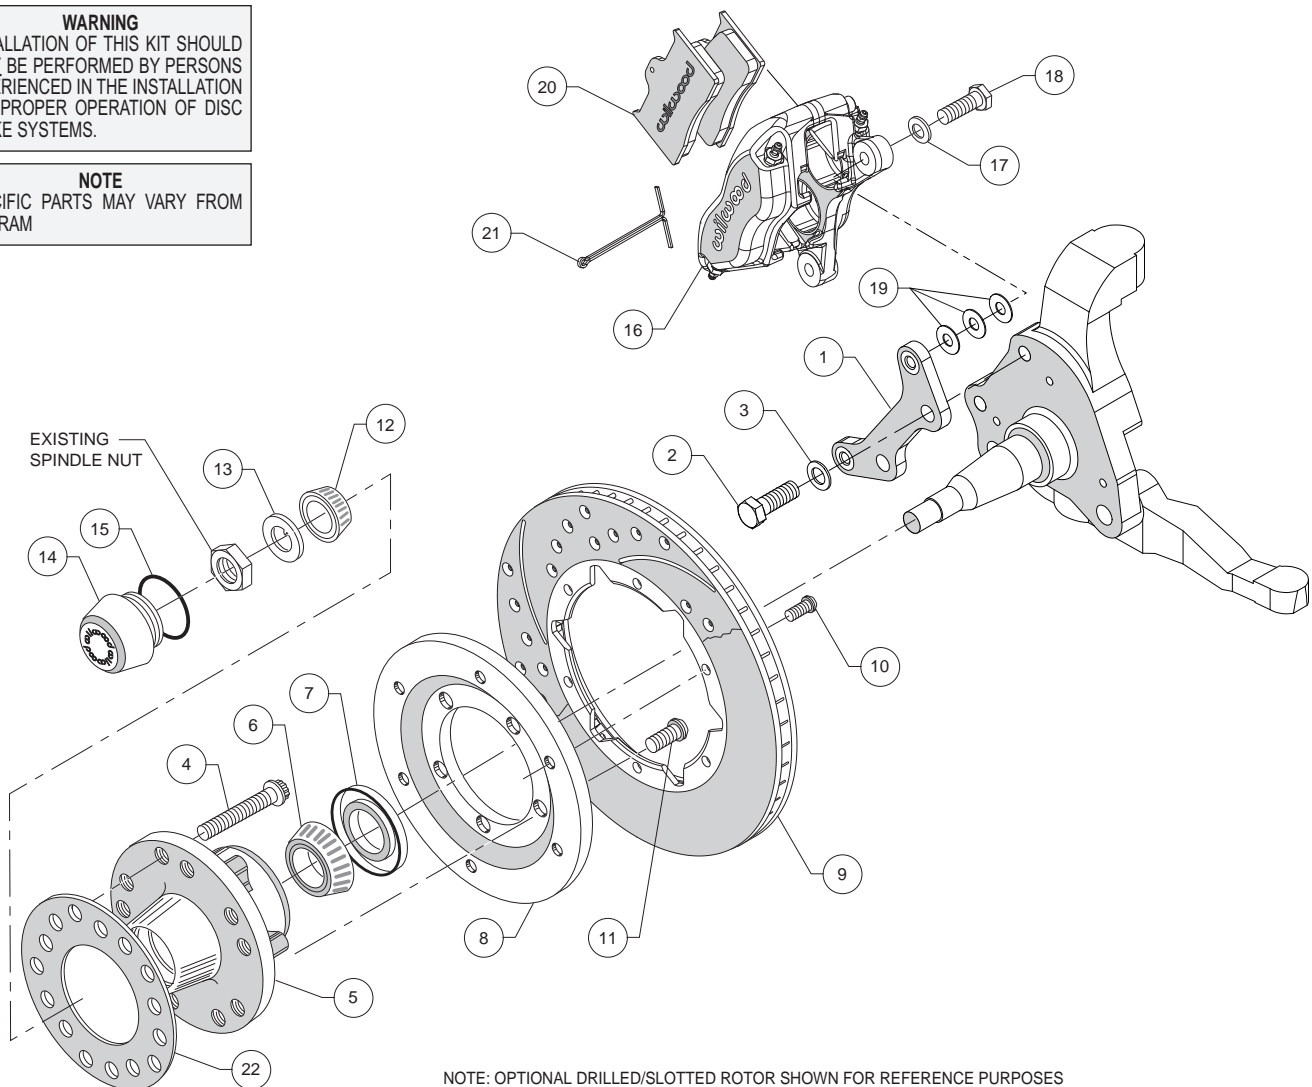

Figure 1. Typical Installation Configuration
Assembly Instructions (numbers in parenthesis refer to the parts list, on the preceding page and Figure 1): **CAUTION:** All mounting bolts must fully engage clinch nuts. Be sure to check that all bolts are either flush or protruding through flanged side of clinch nut after shimming, Figure 3.
- Align caliper mounting bracket (1) with the corresponding holes, to the face of the spindle. Attach using bolts (2), and washers (3), as shown in Figure 1 and Photo 1. Temporarily tighten the mounting bolts. Ensure that the flanged heads of the clinch nuts in the bracket are facing outboard, Photo 1. **NOTE:** The bracket must fit squarely against the mounting points on the spindle. Inspect for interference from casting irregularities, machining ridges, burrs, etc. Remove bolts one at a time, apply red *Loctite*® 271 to threads and torque to 77 ft-lbs.
- Install the grease seal (7) by pressing into the backside of the hub (5), flush with the end of the hub, Photo 3.
- Orient the rotor (9) and the rotor adapter (8) as shown in Figure 1 and Photo 4. Attach the rotor to the adapter using bolts (10). Using an alternating sequence, apply red *Loctite*® 271 to the threads, and torque to 25 ft-lb.
- Mount the adapter/rotor assembly (8/9) to the hub (5) using bolts (11), as shown in Figure 1 and Photo 5. Using an alternating sequence, apply red *Loctite*® 271 to the threads, and torque to 45 ft-lb.
- Screw dust cap (14) into hub (5), Photo 7. Friction created by the o-ring (15) on the dust cap keeps it from unscrewing. **NOTE:** The O.D. of the existing OEM spindle washer may be larger than the I.D. of the dust cap not allowing it to seat against the hub face. Therefore, use the spindle washer (13) supplied with the kit instead of the OEM washer.
- NOTE:** Please reference the caution statement at the beginning of the assembly instructions. Mount the caliper (16) onto the caliper mounting bracket (1) using bolts (18) and washers (17), as shown in Figure 1. Initially place three .035" thick shims (19) on each bolt between the caliper and the bracket, Photo 8. Temporarily tighten the mounting bolts and view the rotor (9) through the top opening of the caliper. The rotor should be centered in the caliper, Photo 9. If not, adjust by adding or subtracting shims between the bracket and the caliper. Always use the same amount of shims on each of the two mounting bolts. **NOTE:** The end of each bolt must be flush with or slightly protruding from the head of the clinch nut, as shown in Figure 3. If necessary place spare shims between washer (17) and caliper mounting ear to achieve the proper clinch nut engagement. Once the caliper alignment and clinch nut engagement are correct, remove the bolts one at a time, apply red *Loctite*® 271 to bolt threads, and torque to 40 ft-lb.